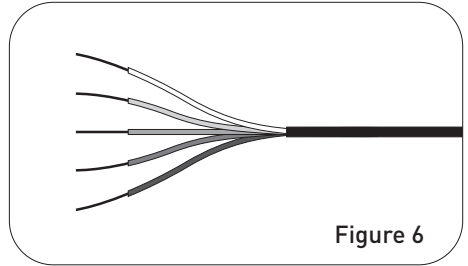

Figure 6
4. Remove 7/8”–1” of insulation from each individual wire (*Figure 6.*)